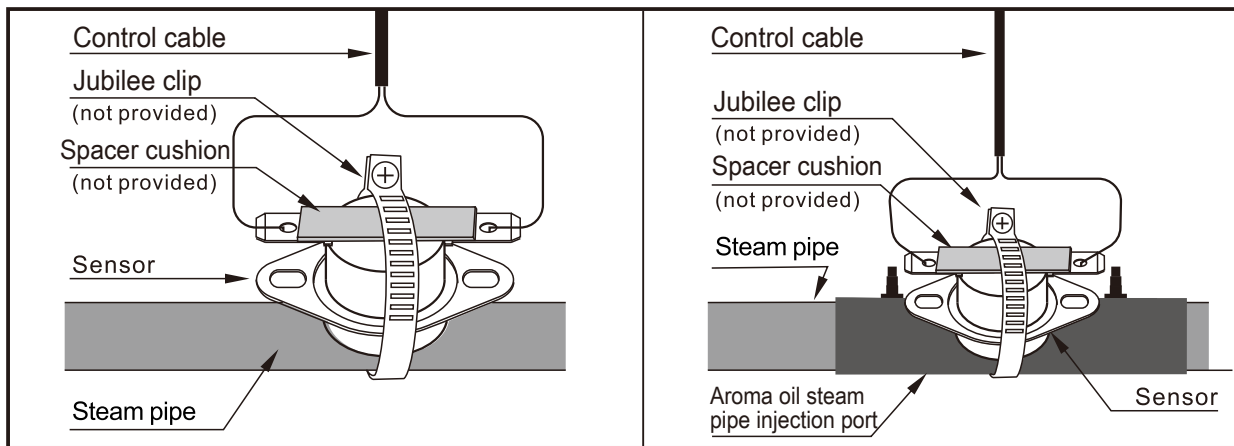

Figure 4
1. Fix the steam pipe temperature sensor switch using a jubilee clamp onto the steam pipe or directly onto the "aroma oil steam pipe injection port" as the figure 4;
2. As shown in Figure 4, it is recommended to add an insulation mat on the temperature sensor switch first, and then fix the temperature sensor switch into steam pipe with a jubilee clamp.